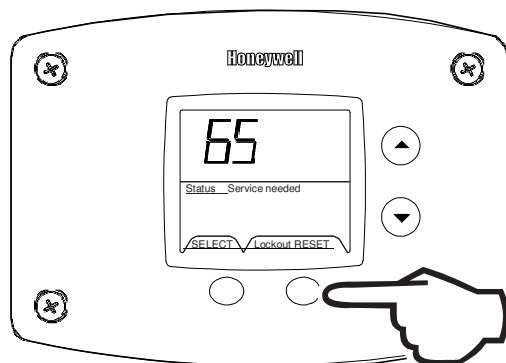

Fig. 61
2. Press for 3 seconds to reset control in service mode (Fig. 61).